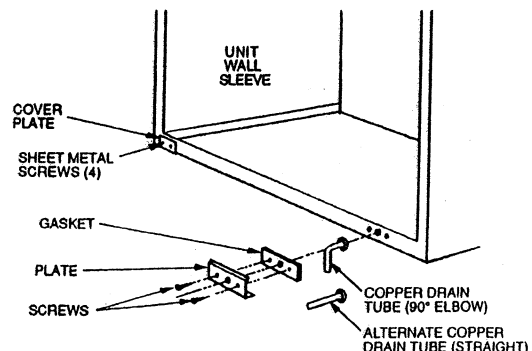

Fig. 3 — Installing External Drain Assembly
2. Fasten drain assembly to wall sleeve using 2 sheet metal screws provided. See Fig. 3.
1. Remove backing from 1 gasket (item 3) and affix adhesive side of gasket to *inside* of 1 plate (item 1). See Fig. 3.
2. Place plate assembly over the unused condensate drain opening in bottom rear flange of sleeve. See Fig. 3.